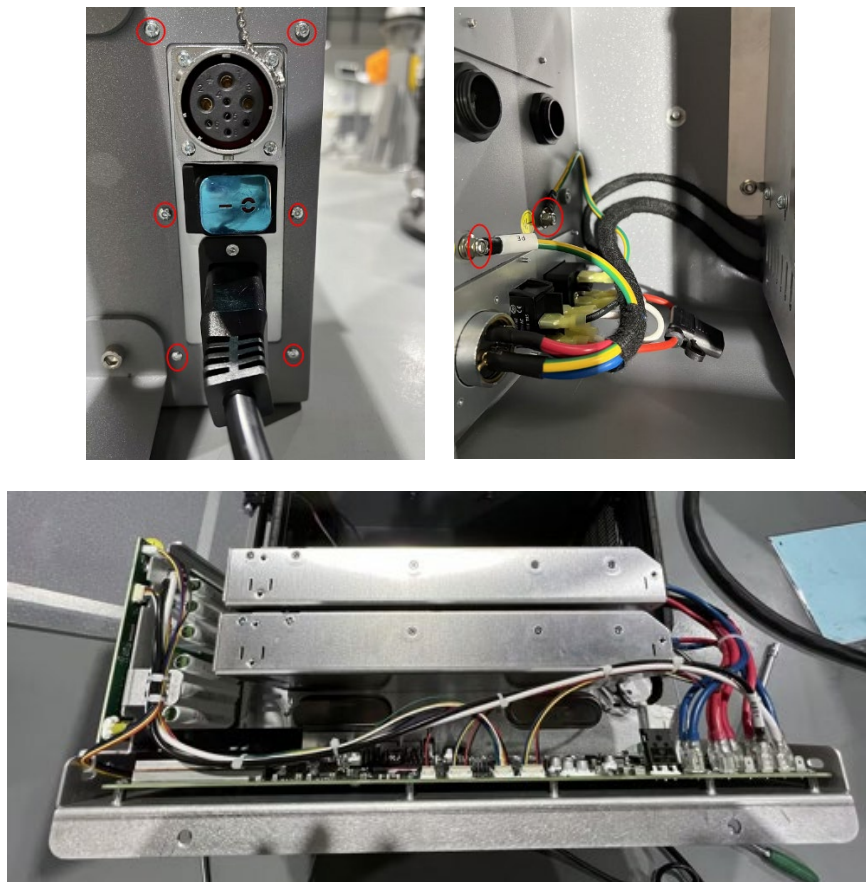

Figure 3-25 Screw position, power ground connection location and sheet metal module placement
- Remove the screws on the connector mounting plate, disconnect the ground from the box to power socket and the equipment connector. Take the sheet metal module out from the box and place it on the box bracket as shown in Figure 3-25: